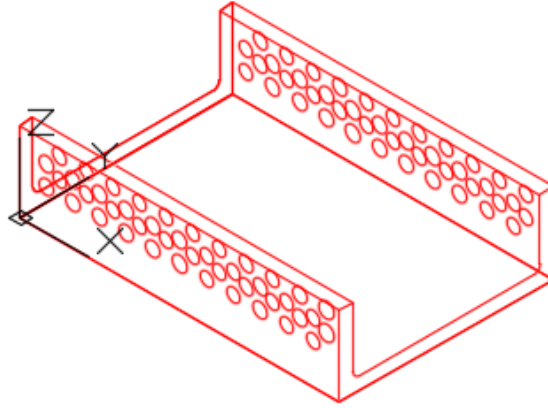

Figure Step 1
Step 1 Open the drawing: AutoCAD 3D Workalong 09-1. The drawing should appear as shown in the figure. (Figure Step 1)